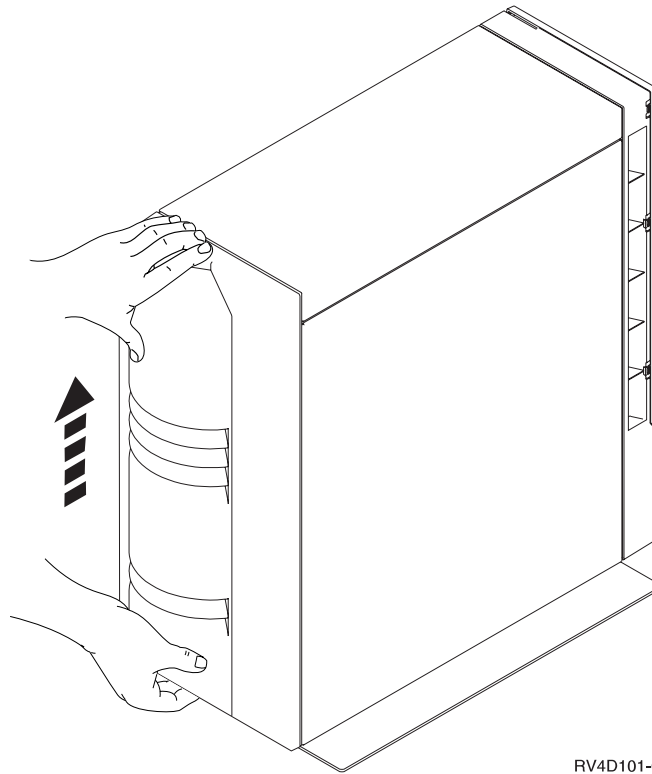

Figure 1. Remove System Unit Back Cover
- ___ 6. Remove the system unit back cover by placing your hand near the bottom of the cover and lifting up and out, (Figure 1 on page 3).